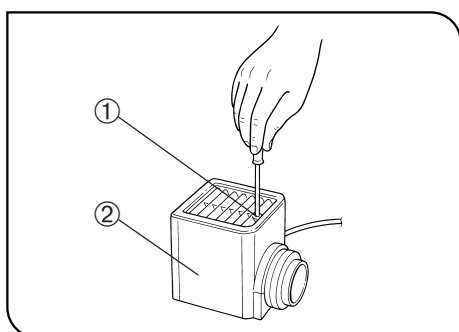

Fig. 44
5. Fit the lamp housing from above and tighten the clamping screw ① while pushing down the screw by force. (Fig. 44)